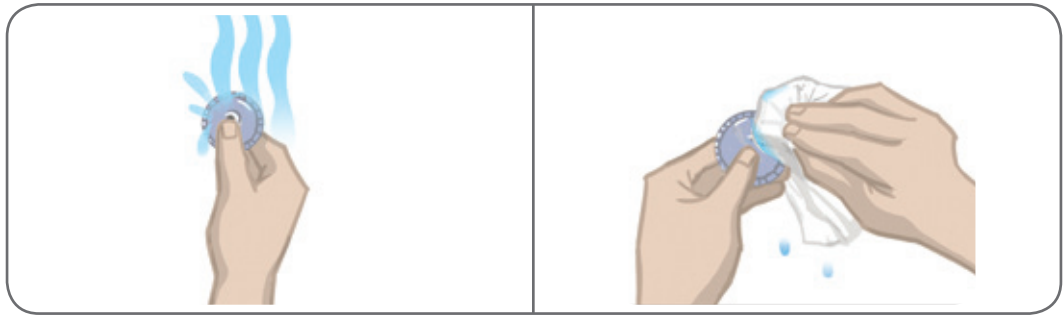

Figure 8-4: Wetting and Removing Excess Water
4. Wet the Cloth Electrodes with water until they are saturated. See Figure 8-4.
5. With a cloth, gently wipe or blot excess water off the back (side with the snap) of the electrodes. See Figure 8-4.